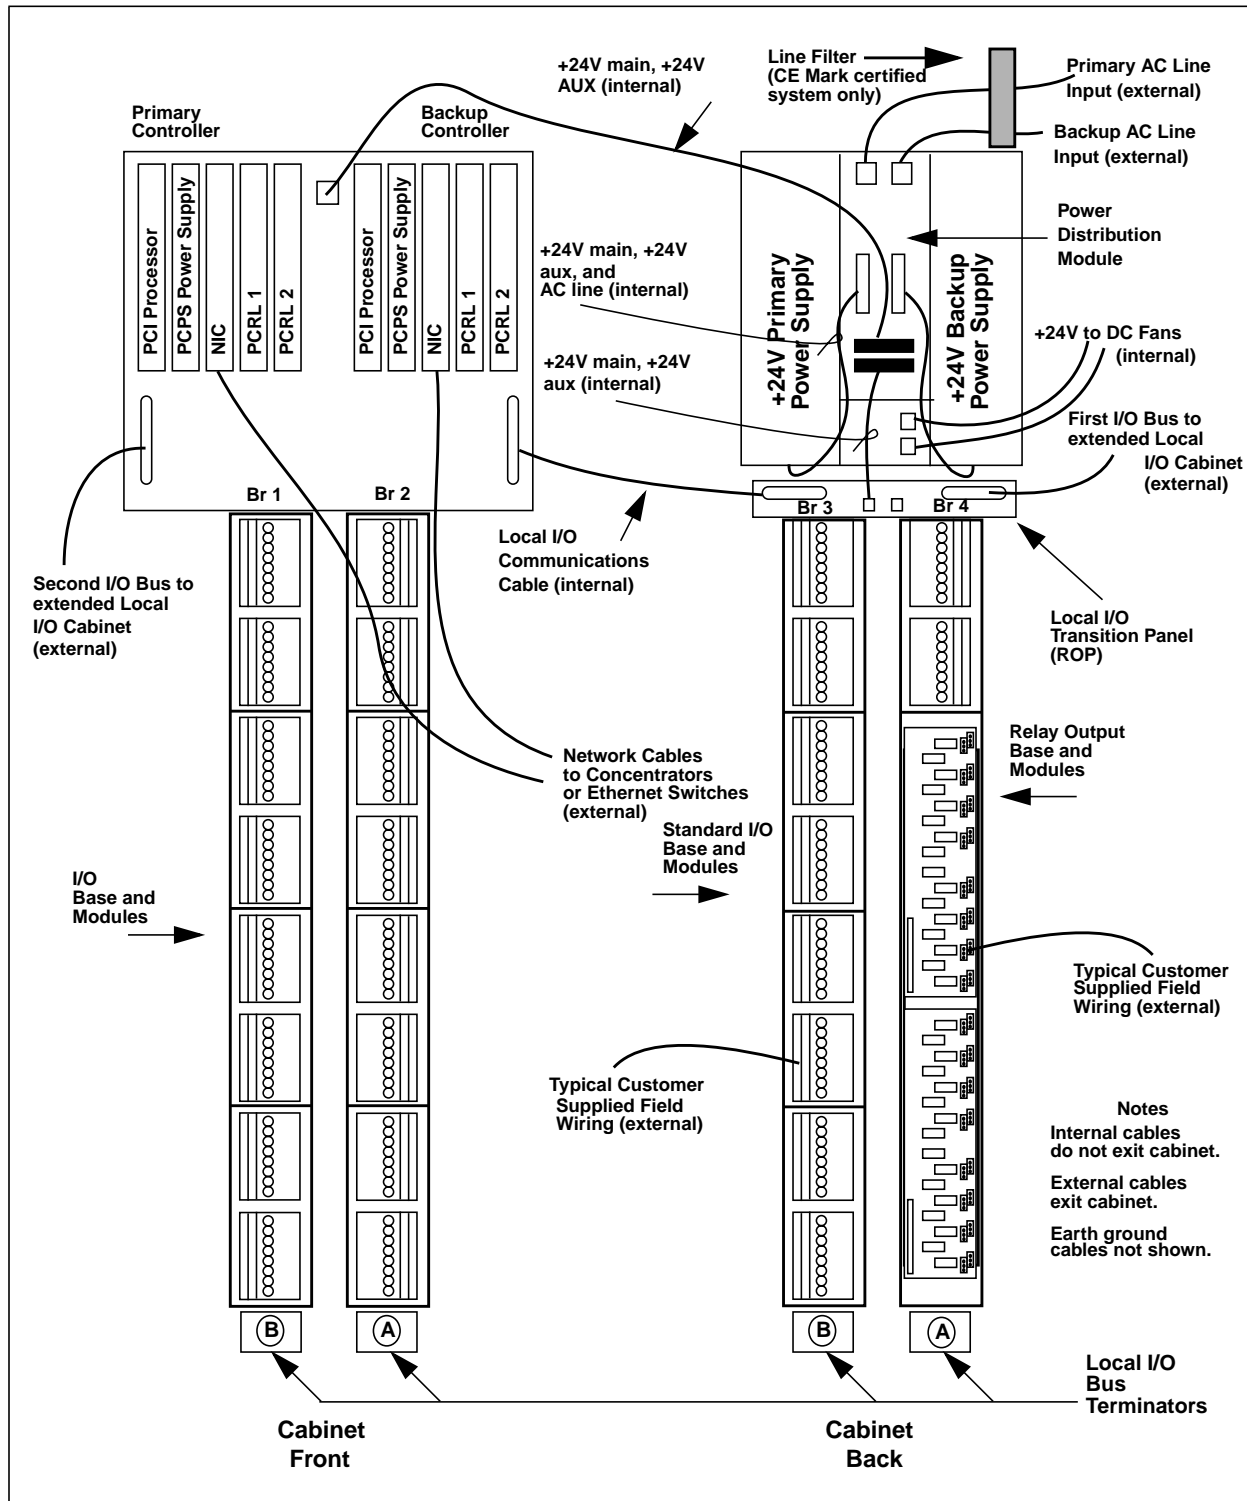

Figure 26-1. Controller Cabinet Components and Cabling (local I/O)
The Ovation I/O Controller cabinet (see Figure 26-1) contains the following:
- I/O Branch Terminator Board A or B (1B30023) - Connects to the A or B-side of a standard I/O base at the end of a branch having no Attachment Unit Module to terminate the local I/O bus (refer to Figure 26-1).